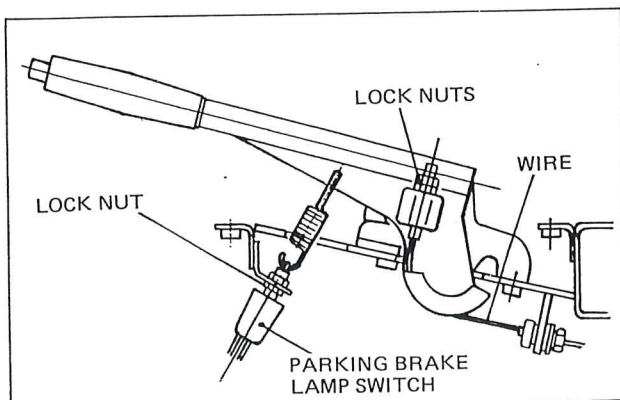

Figure 71 — Parking Brake Adjustment
1. Loosen the locknut in Figure 71.